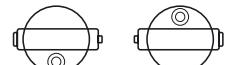

Figure 6
- a) Adjust the lifting screws to center the bubble vial and rotate the telescope by 180°. The bubble vial should remain in the center (Figure 6).